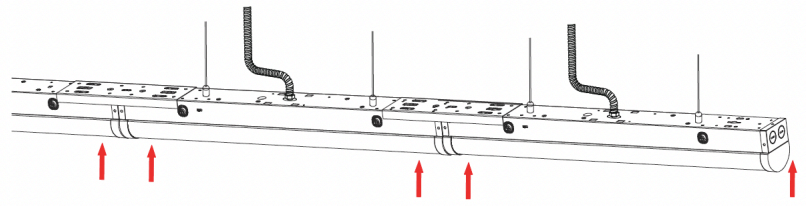

Fig. 30
14. Secure the housing cover by pressing inward and lock it into the fixture. Turn power on to verify operation. (Fig. 30).